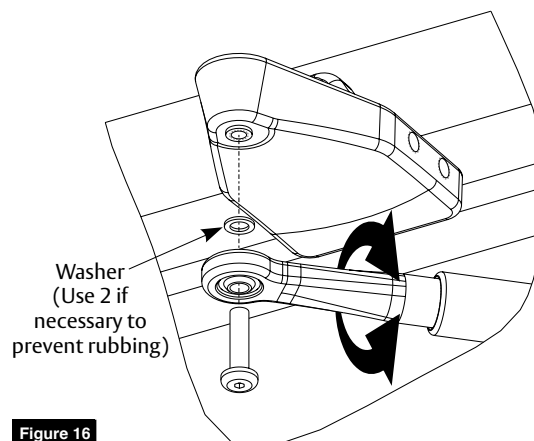

Figure 16
3. Using 3/16" hex wrench, attach end link to arm pivot with washer and 5/16 - 18 x 22mm button head cap screw. (Figure 16)